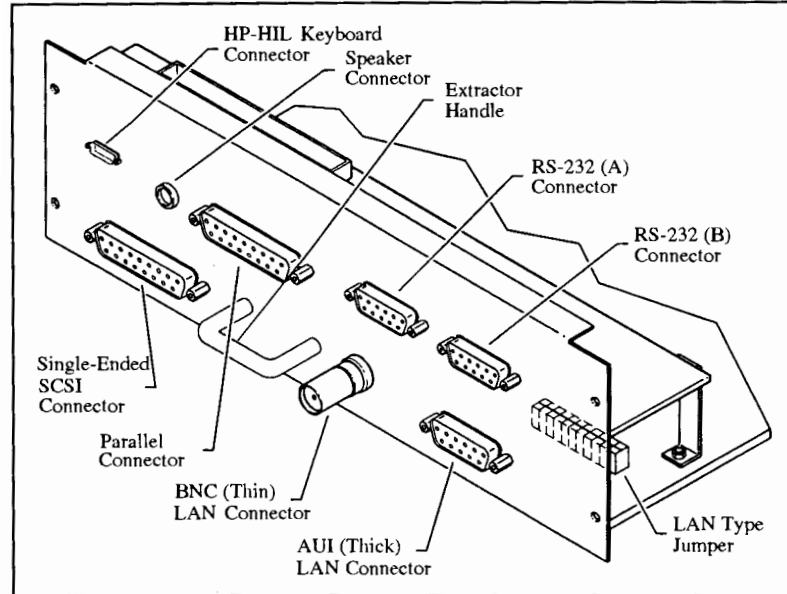

Figure 1-4. Connectors on the System (core I/O) Card's Bulkhead
Figure 1-4 contains an illustration of the I/O connectors provided on the card's bulkhead. Refer to chapter 2 for a "list of the supported peripheral devices."
- Onboard LAN type jumpers select either the (ThinLAN) MAU through the BNC connector or an external (ThickLAN) MAU through the 15-pin AUI connector. (See Figure 1-4.)